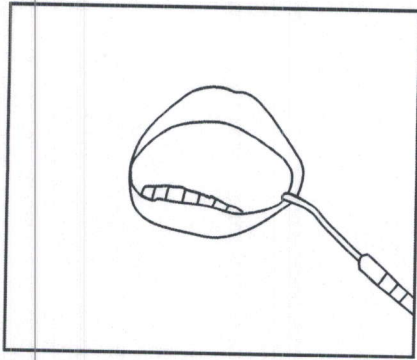

Fig.34
- 4) Link the lip clip to the patient's lip; instead the patient may hold the lip clip firmly in the hand.(Fig.34)